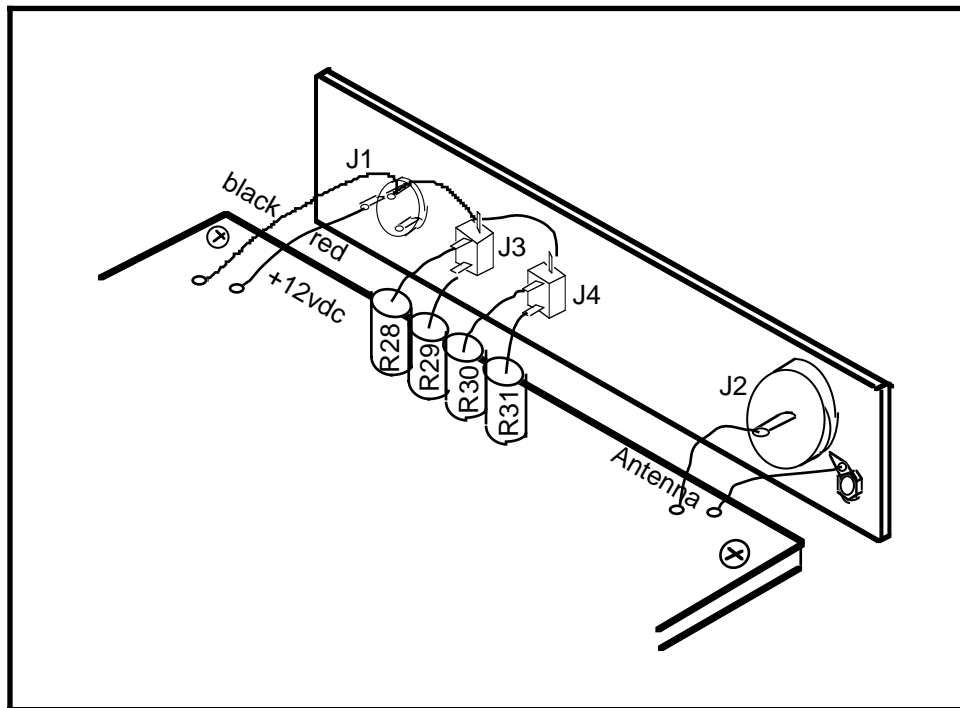

Figure 12. Rear panel wiring
11. ☐ Install one end of each fixed resistor R28-R31 on the PC board. The bottom of each resistor should be flush with the board. The other end of each resistor will be soldered later to the audio jacks (see Figure 12).
11. ☐ Complete installation of resistors R28, R29, R30, and R31 as shown below. Leave a little extra lead length so that the resistor leads are not taut. First solder R29 and R31 on the bottom tabs of the two audio connectors. Then solder R28 and R30 to the top horizontal tabs as shown in Figure 12.